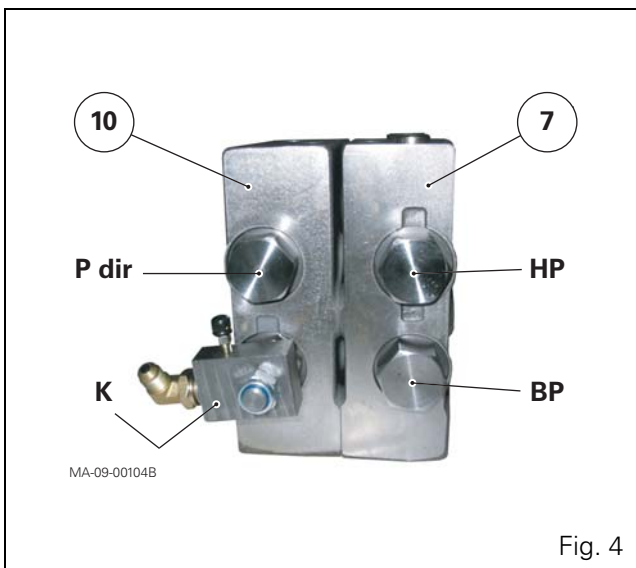

Fig. 4
NOTE: Nothing specific regarding removal. However, if removal does not concern work on the braking unit, the hose for the hydraulic control line (mark (K), Fig. 3, Fig. 4 and Fig. 6 to Fig. 11) coming from the brake master cylinders (40 kph tractors) or from the block/valves (tractors fitted with high-pressure braking) should not be disconnected in order to avoid bleeding the hydraulic control line during the final phase.